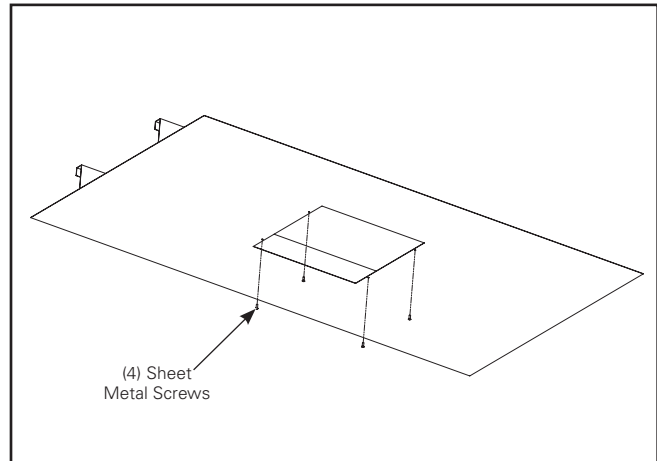

Figure 1b.
5. Use the template to screw in four sheet metal screws provided from bottom side of canopy (Figure 1b).